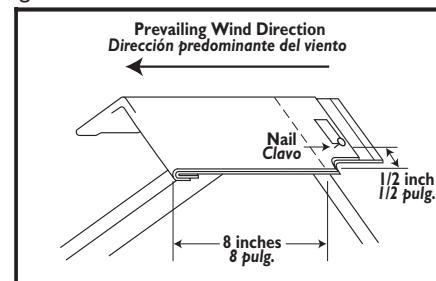

Figure 3
5. Completely cover "starter" shingle with the 8" exposed portion of the next hip and ridge shingle. (Fig. 3)